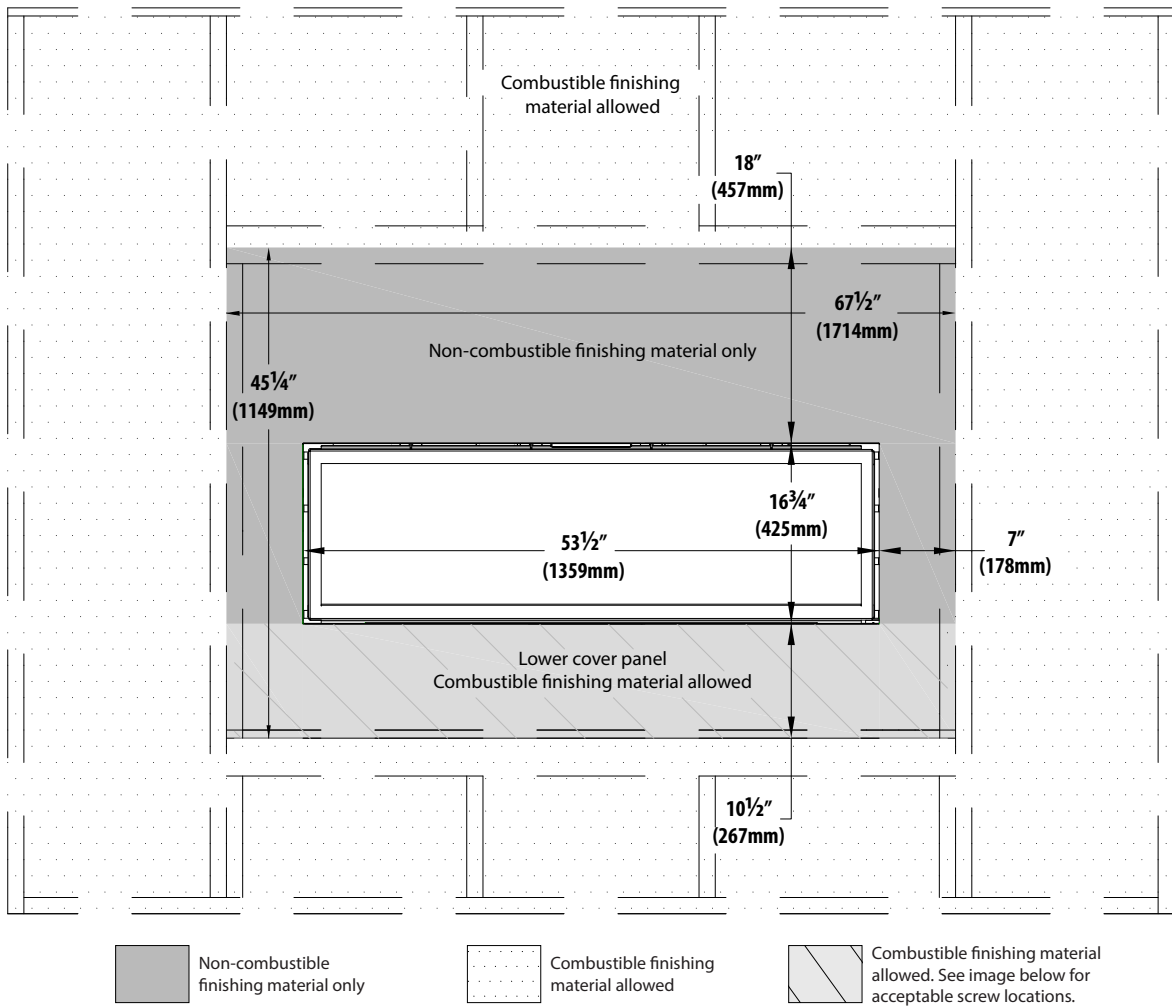

FIGURE 4.5 Minimum Non-Combustible Finishing Dimensions
- Non-combustible material is required at the top and sides of the fireplace. This fireplace is designed to accommodate non-combustible facing material up to 1/2" (13mm) thick. See FIGURE 4.5 on page 39 for dimensions.
- Non-combustible material is required at the top and sides of the fireplace. This fireplace is designed to accommodate non-combustible facing material up to 1/2" (13mm) thick. See FIGURE 4.5 on page 39.